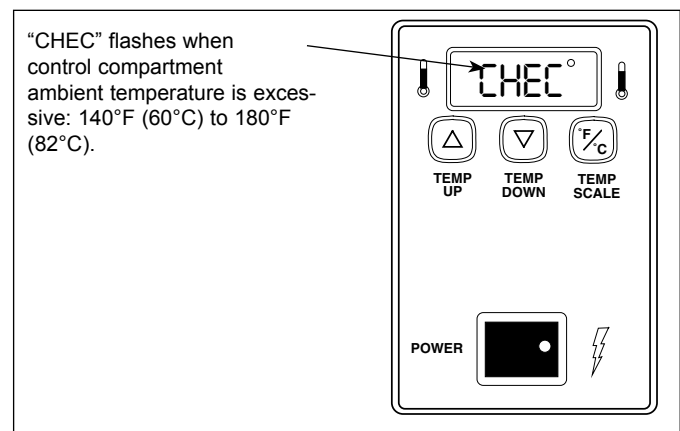

Figure 8. "CHEC" Fault Message
- When this occurs, the temperature display will flash “CHEC” (Figure 8). To restart the unit, ambient temperature must drop to 140°F (60°C) and the cooling fan must be operating. The unit must be turned off, then back on.